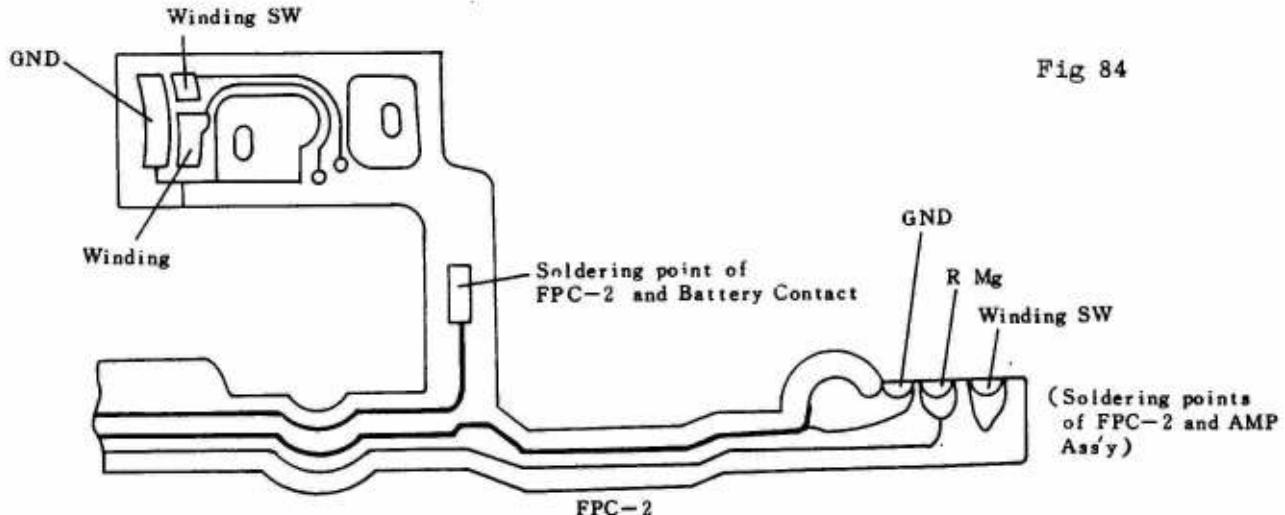

Fig 84
- (1) Malcontact of W. Obstruction Lever contact.
- (2) Malcontact of Terminal Pin (260174) of W-7 and Connector Pin (159196).
- (3) Pattern of FPC-2 is dirty as shown below.
- (4) Bad soldering of soldering point of AMP Ass'y and FPC-2 as Shown in (Fig 84).